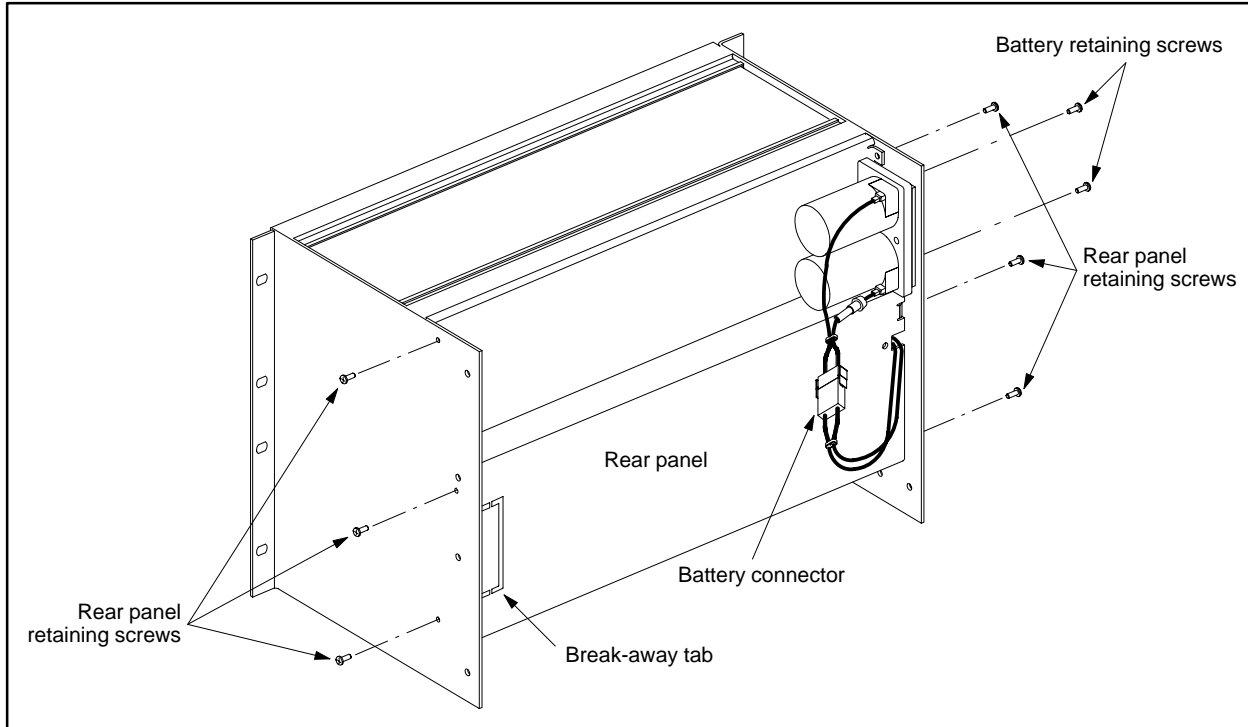

Figure 4-31 Rear Panel Disassembly for J2 Backplane Installation
Another option for supplying the second power connector is to install a single connector, in the form of a mini J2 backplane with a single DIN connector and power leads, available from Siemens as PPX:2589739-8012. Refer to the J2 connector installation instructions included in the kit for additional details. Refer to Figure 4-31 for rear panel disassembly.
2. Remove the 6 screws (3 per side) that hold the rear panel, and remove the rear panel from the unit (see Figure 4-31).